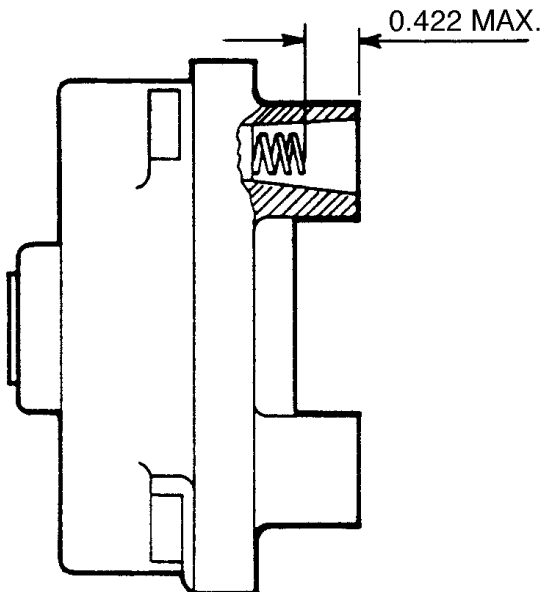

Figure 8-15. Contact Spring Inspection
1. Inspect distributor block contact springs. Top of spring must not be more than 0.422 of an inch below top of tower as shown in Figure 8-15. Replace if broken or corroded..